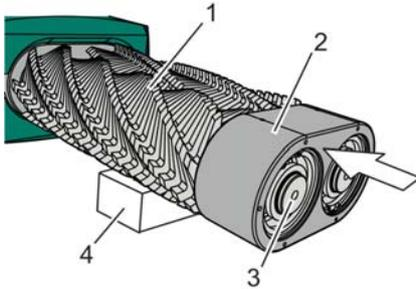

Fig. 77: Mounting the bearing housing, example
Carefully lift the cutter blocks (Fig. 77/1) on the drive shafts from the mounting surface and slide under a suitable operator-side assembly support (Fig. 77/4).
5. Slide on the bearing housing (Fig. 77/2) in the correct position onto the bearing ends of the drive shafts (Fig. 77/3) up to the stop.